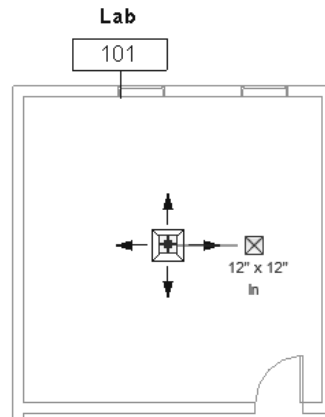

Figure 2–23
5. Click near the center of room **Lab 101**, as shown in Figure 2–23.